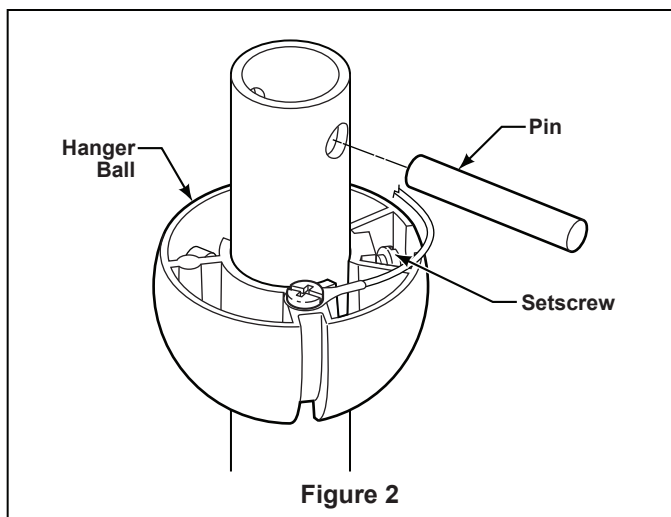

Figure 2
2. Remove the Hanger Ball by loosening the setscrew in the Hanger Ball until the ball falls freely down the Downrod. (Figure 2) Remove the Pin from the Downrod, then remove the Hanger Ball. Retain the Pin and Hanger Ball for reinstallation in Step 5.
9. Install three Candelabra Bulbs (not included - 40 watts max) in each of the sockets on the Uplight Assembly (Figure 2).